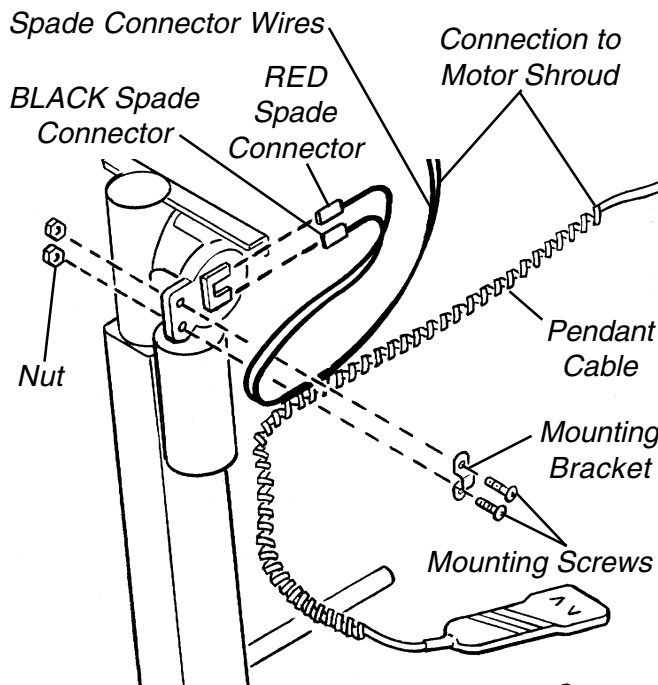

FIGURE 4 - REMOVING THE MOTOR SHROUD
4. Disconnect the RED and BLACK spade connector wires from the motor as shown in FIGURE 4.
5. Remove the two (2) mounting screws securing the mounting bracket to the motor as shown in FIGURE 4.
*NOTE: Save the EXISTING two (2) mounting screws for reuse when securing the NEW spade connector wire and pendant cable to the motor.*
6. Remove the mounting bracket and release the spade connector wire and pendant cable as shown in FIGURE 4.